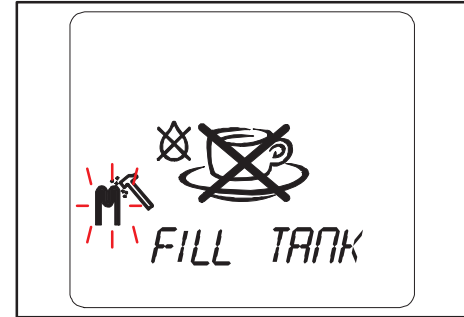

Fig. 84 Water tank empty, fill the tank
For the **model without a fixed water connection** the removable water tank must be filled a number of times during the descaling process. Fill the tank when the "FILL TANK" symbol (fig. 84) shows in the display.
- When the "FILL TANK" symbol (fig. 84) shows in the display for the first time, flush the water tank thoroughly with warm water to remove all the descaling residue.